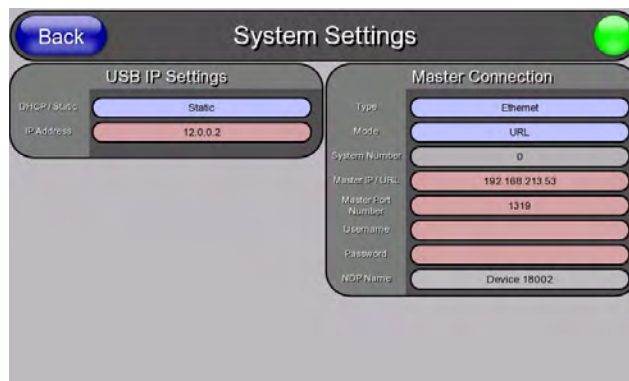

FIG. 25 System Settings page
2. Select *Type* to toggle between the Master Connection Types *USB* and *Ethernet* (FIG. 25).